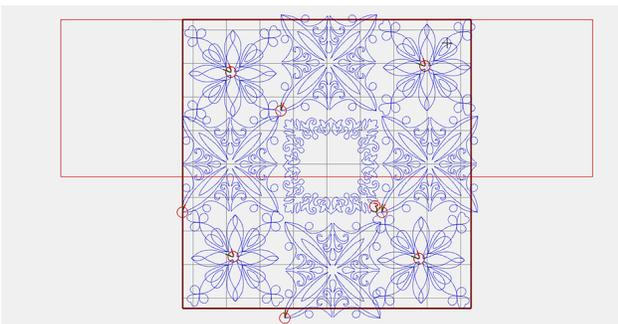

Fig. 74
- Place Design 3 in the center block area (Fig. 74).